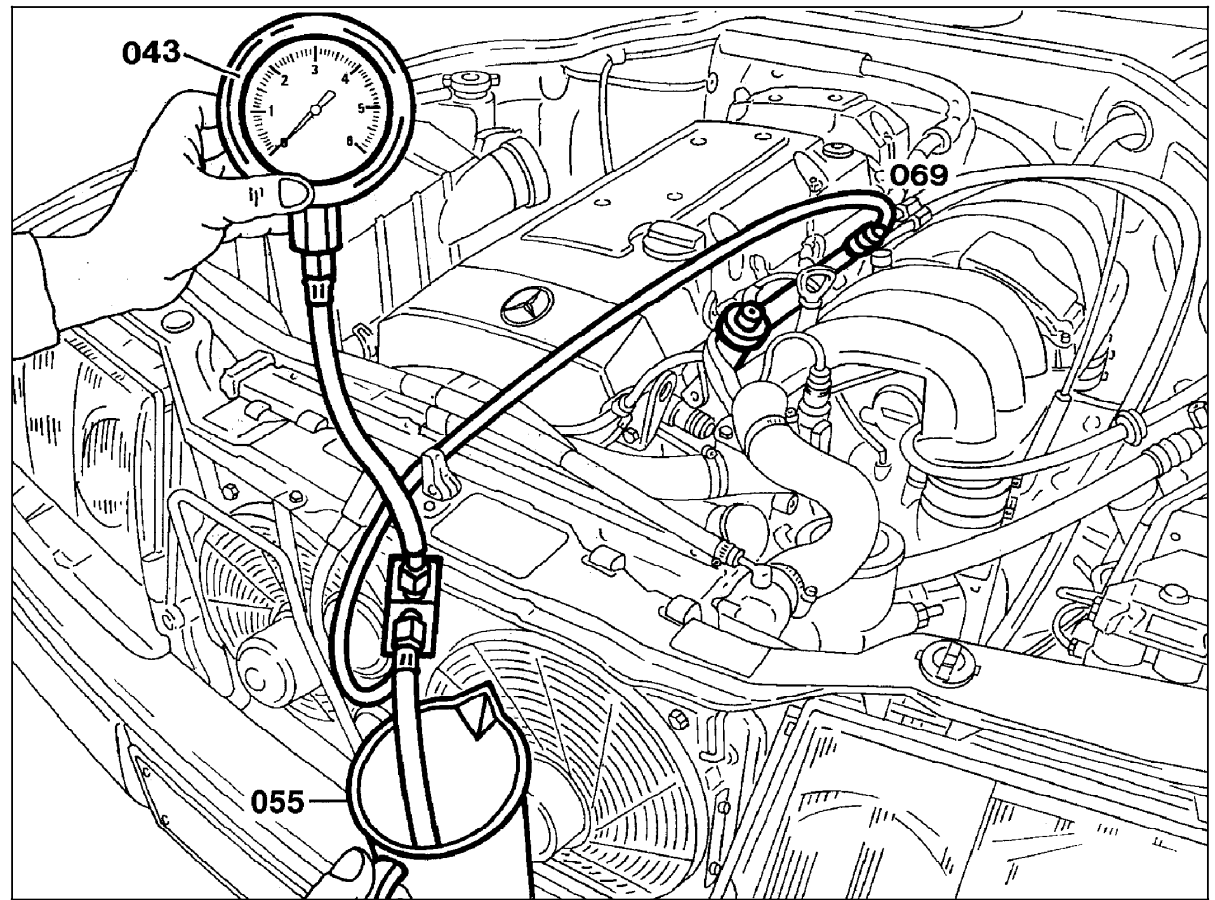

Figure 1
4. Connect pressure gauge to test connection (see Figure 1),
5. After completing test, using measurement glass (055), release fuel pressure and allow residual fuel to drain into glass (see Figure 1).